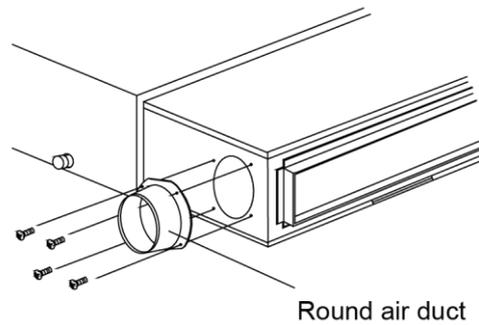

Fig 4.4.10
- (2) Install the round flange so that the fresh air duct can be connected as Fig 4.4.10.
- (3) Sealing and heat preservation should be done for both the air pipe and round flange pipe.
- (4) Fresh air should be treated via the air filter.